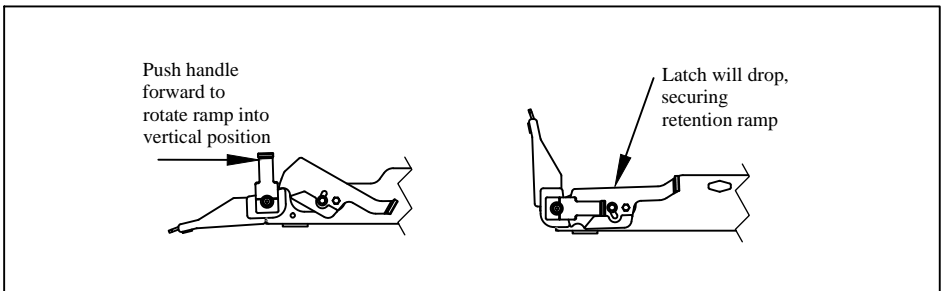

Figure 4: Vertical position.
- Step 8.** Position the retention ramp in the vertical position using your hand or foot (Figure 4).